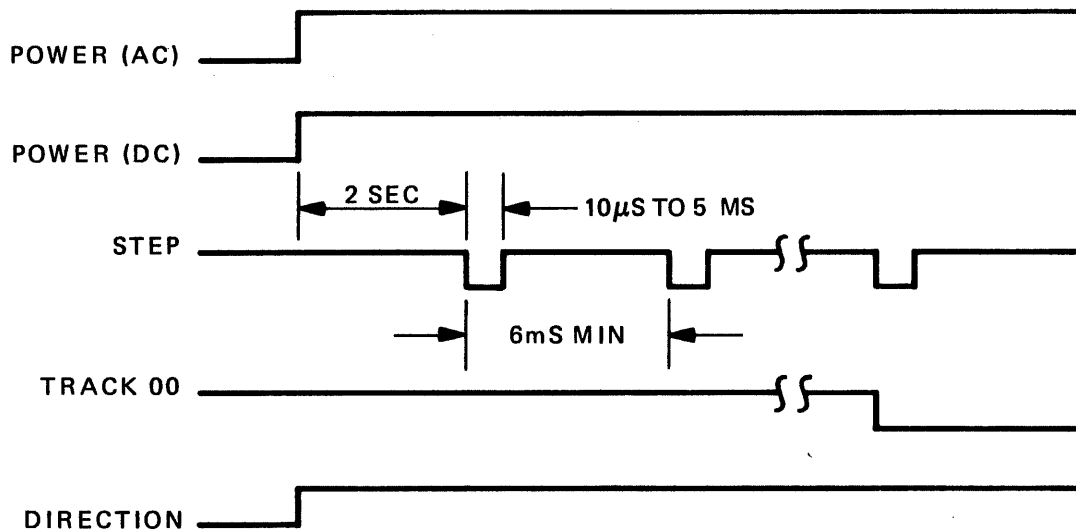

FIGURE 4-5
4.5.1 POWER UP MODE (Refer to Figure 4-5)